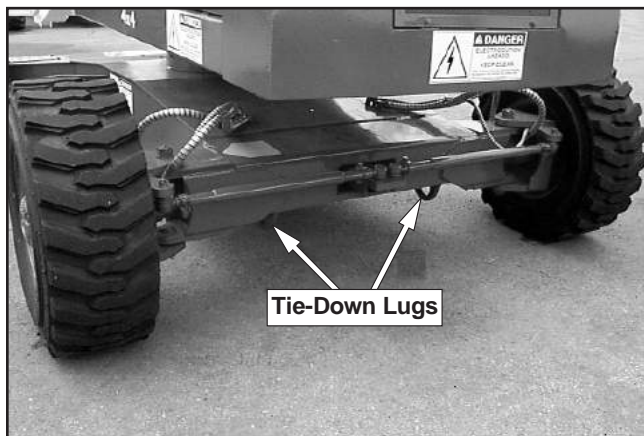

Figure 9.2—Tie-Down Lugs
5. Attach the winch to the tie-down lugs (refer to Figure 9.2) on the front of the chassis.